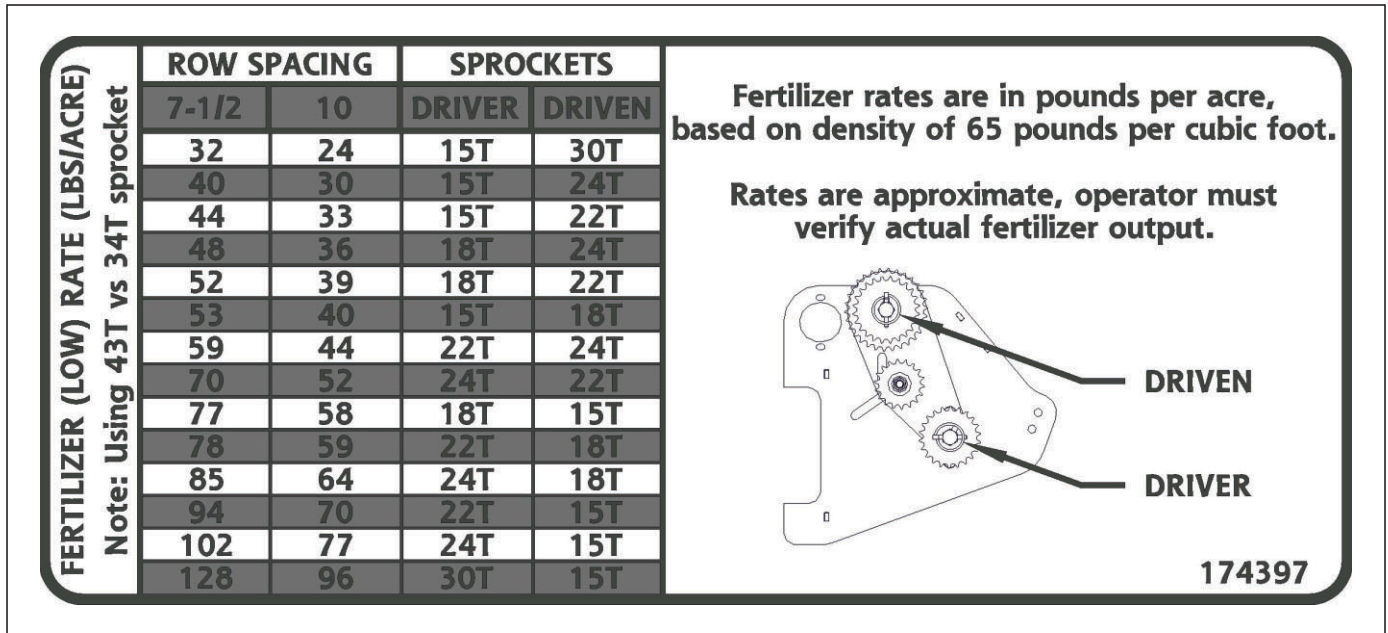

Figure 4-24: Fertilizer Box Chart
1. The dry fertilizer rate is adjusted by changing sprocket ratios for each section. *See Figure 4-24* for desired settings. For best results use clean dry fertilizer, free of clumps, or foreign material.